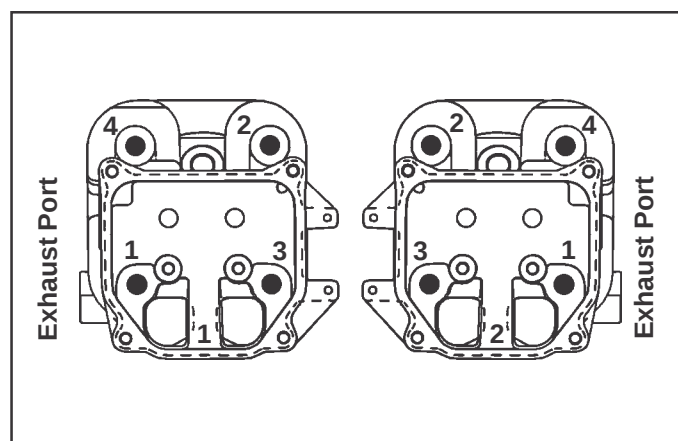

Figure 1. Cylinder Head Fastener Torque Sequence.
2. Torque the head bolts in two steps; first to **22.6 N·m (200 in. lb.)**, then to **41.8 N·m (370 in. lb.)**, in the sequence shown in Figure 1.